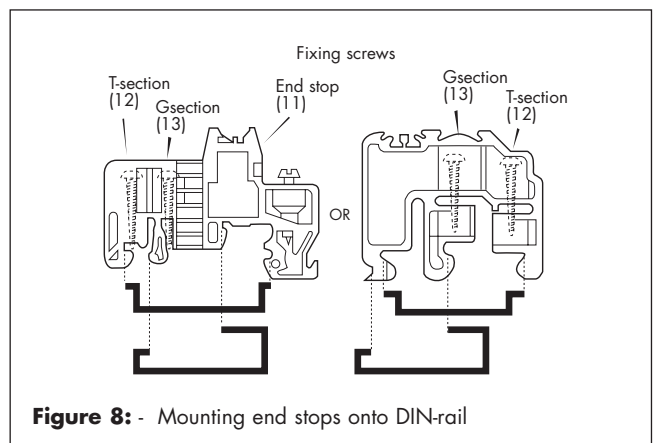

Figure 8: - Mounting end stops onto DIN-rail
- For vertically orientated backplanes attach one end stop (11) to the lower end of each DIN-rail supporting a column of carriers by clipping the stops into place and tightening the appropriate screw [(12) for T-section and (13) for G-section DIN-rails] (figure 8).